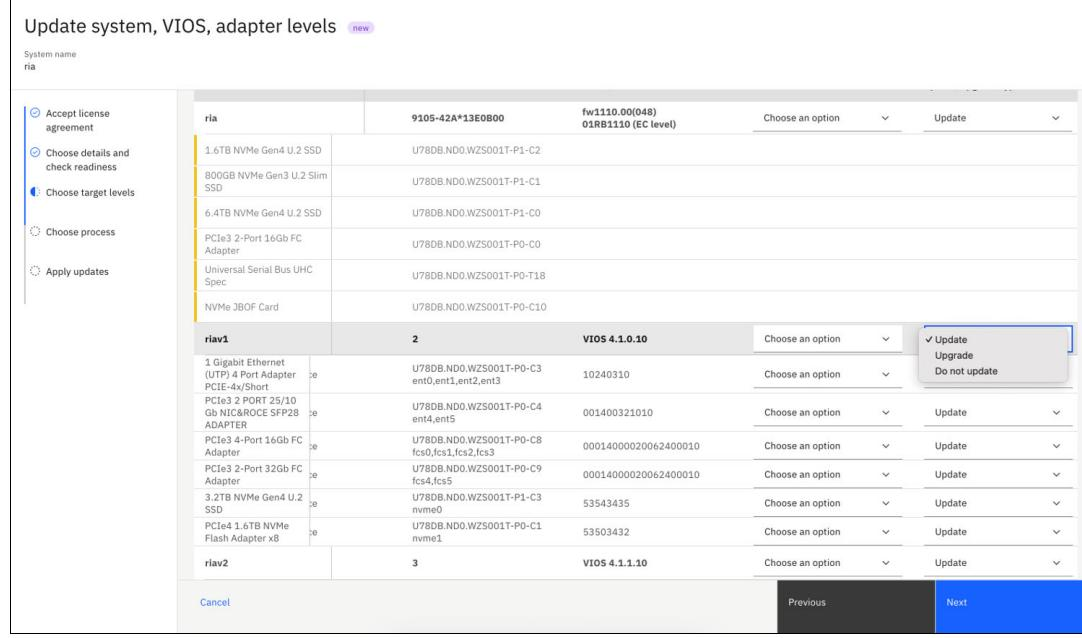

Figure 5-4 Upgrade type
2. From the drop-down Update menu, choose **Update** or **Upgrade** as shown in Figure 5-4.